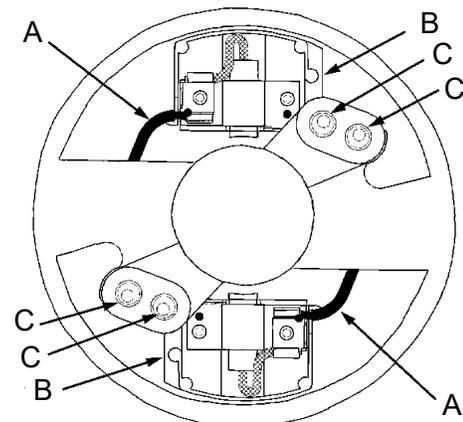

Figure 13
- 3 To replace the brushes, disconnect the field wire (A) from the brush holder (B). Then remove the two screws and washers (C) securing the holder to the motor housing. See Figure 13.